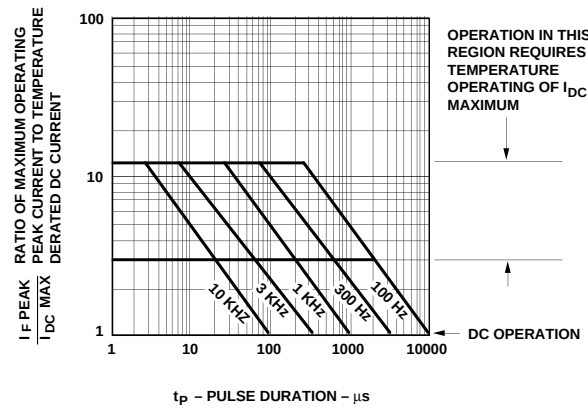

Figure 9. Allowable Peak Current vs. Pulse Duration – Green.
- See Figure 9 to establish pulsed conditions.